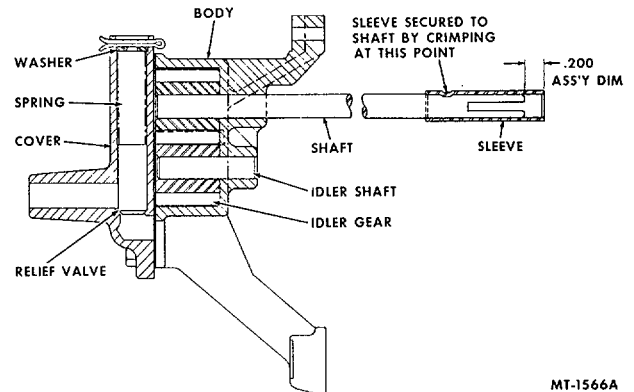

Fig. 126 Oil Pump Shaft Sleeve Installation
10. Install the oil pump shaft sleeve on the shaft to dimension shown in Fig. 126. Then crimp sleeve securely in place as shown in Fig. 126.